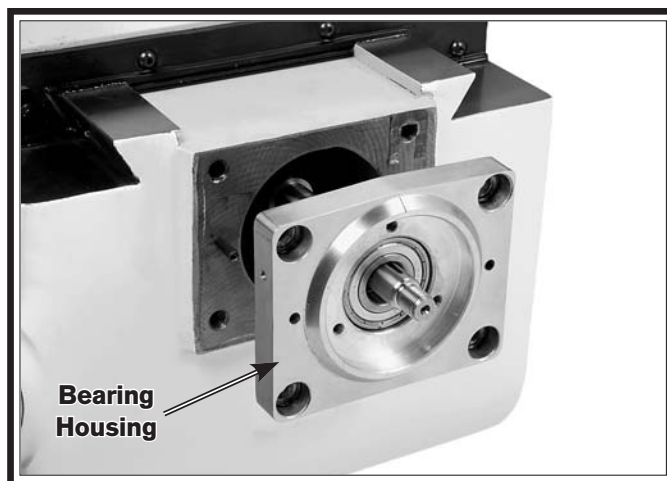

Figure 65. Removing the bearing housing from the Y-axis leadscrew.
4. Remove the four cap screws from the bearing housing, then slide it off the leadscrew (see **Figure 65**).